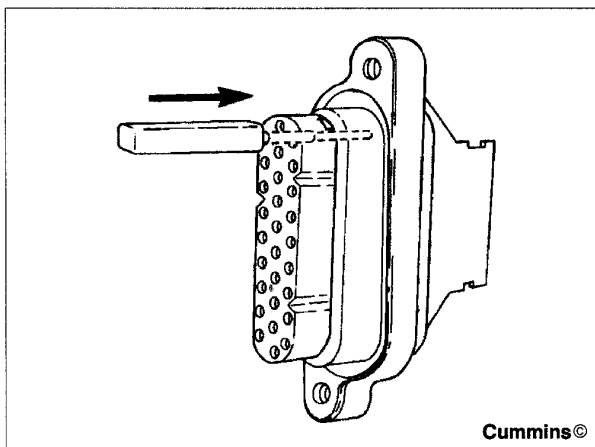

Figure 74 Make Sure Tool is Pushed to Bottom of Cavity
9. If it was removed, insert the tool, Cummins Part No. 3822759, in the location of the repaired terminal. Make sure the tool is pushed to the bottom of the cavity (Figure 74).